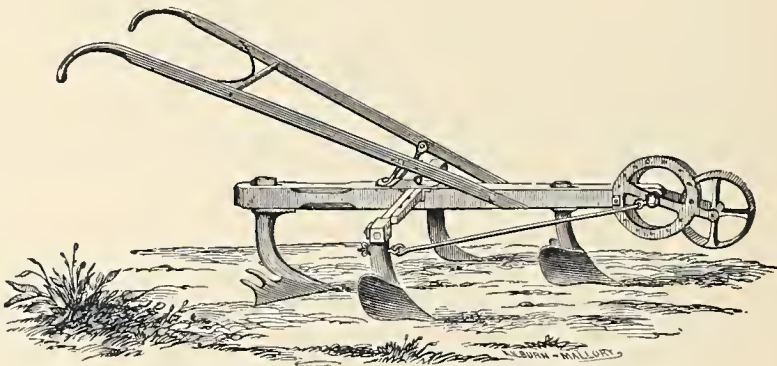

Fig. 364.—Howe's Expanding Horse-Hoe.
*The Howe's Expanding Horse-Hoe*, represented by *Fig. 364*, is light, easily managed, and pulverizes and mixes the surface, and is consequently highly destructive to weeds and grass. It is made with parallel expanding bars, so that it may be worked as wide or narrow as desired.